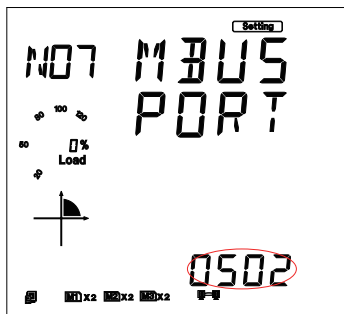

Fig 5-35
9. Set Modbus-TCP port in the seventh setting page, such as 502. Press the "V/A" key to go to the setting page. Users may set the parameters pointed out in Figure 5-35. The cursor starts at the first digit. After setting the Modbus-TCP port, press the "V/A" key to accept. Press the "P" key to go to the eighth setting page for the HTTP port. The Modbus-TCP port's default value is 502, and the user defined range of port is 2000~5999. If the set port is not in the correct range, the set port will return to the default value.